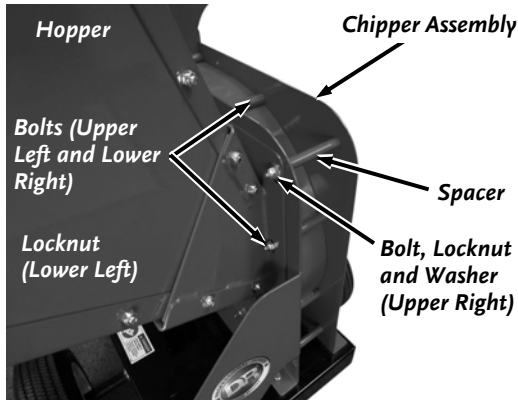

Figure 49a: Pro
- a. Remove the Locknut and Washer from the upper right Bolt and lower left Stud of the Hopper using two 1/2" Wrenches (**Figure 49a**). The Bolt can be left in place and make sure the Spacer stays in the location shown.